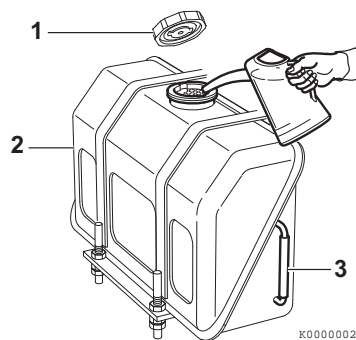

Figure 1
1. Clean the area around the fuel cap (**Figure 1, (1)**).
2. Remove the fuel cap from the fuel tank (**Figure 1, (2)**).
3. Observe the fuel level sight gauge (**Figure 1, (3)**) and stop filling when gauge shows fuel tank is full. Never overfill the fuel tank.
4. Replace the fuel cap (**Figure 1, (1)**), hand tighten. Over tightening the fuel cap will damage it.